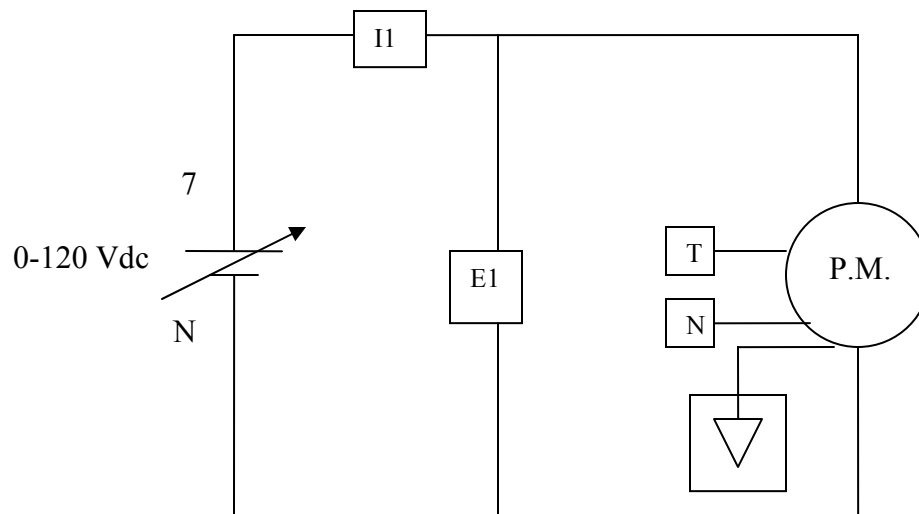

Figure 1: Prime Mover Circuit
3. Connect the LOW POWER INPUTs for the Prime Mover /Dynamometer Module(1) and the DAI to the 24V supply and turn it on.
6. Construct the circuit of Figure 1. Use the Prime Mover /Dynamometer Module on the left hand side of the workstation. Note that connection of the torque (T) and speed (N) terminals from the Prime Mover / Dynamometer module to the DAI module requires special (smaller sized) connection wires. Be sure to connect the white ground terminal from the P.M. to DAI module. Set the Prime Mover / Dynamometer controls as follows:
- DISPLAY switch.....SPEED (N)